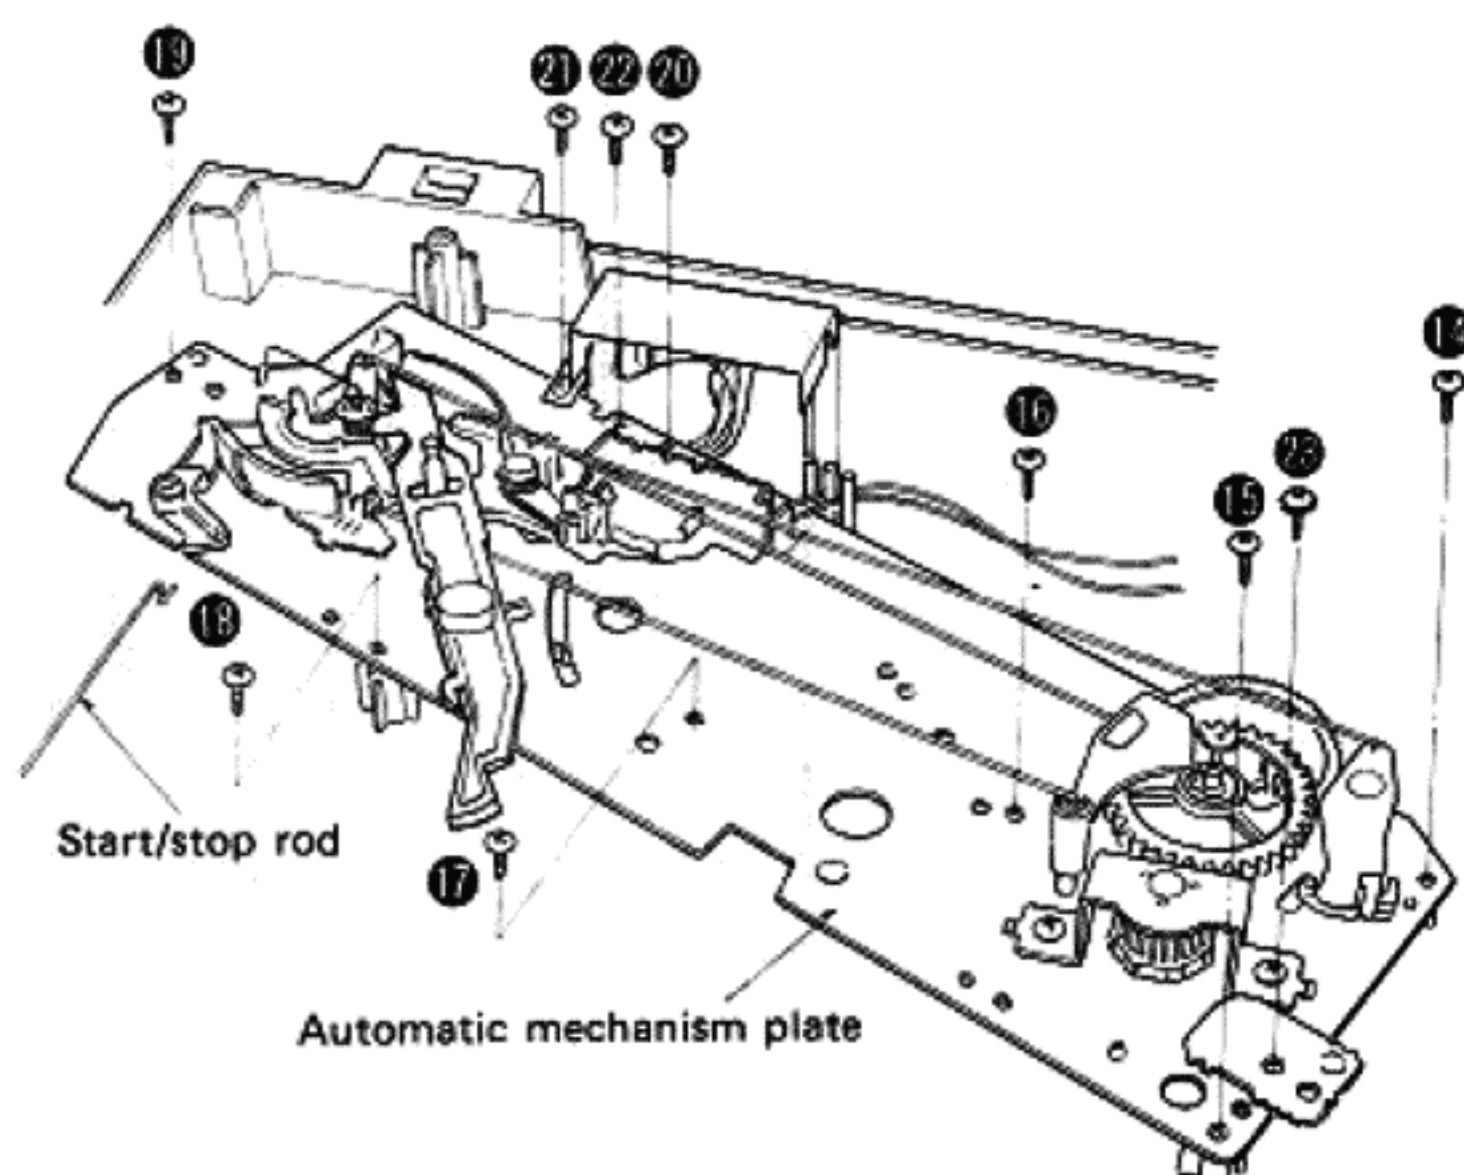

Fig. 4
2. Remove the 7 setscrews (⑭~⑳) of the automatic mechanism plate, the setscrew ㉑ of the output terminal shielding plate, the setscrew ㉒ of the earth terminal, and ㉓ of the earth circuit P.C.B. (Fig. 4).